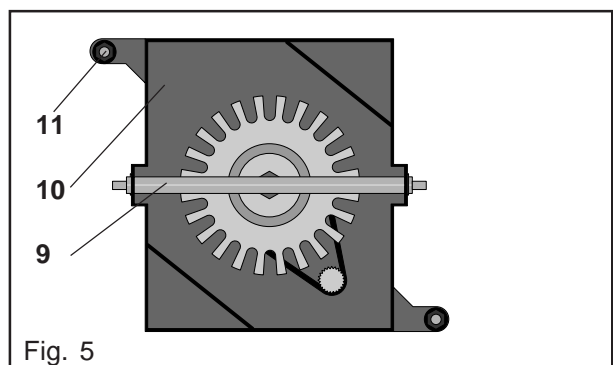

Fig. 5
- the axle (9) cannot be removed and turned manually (fig. 5)
- Loosen the tie rod (11) (2 self-locking nuts with washers). (Fig. 5)